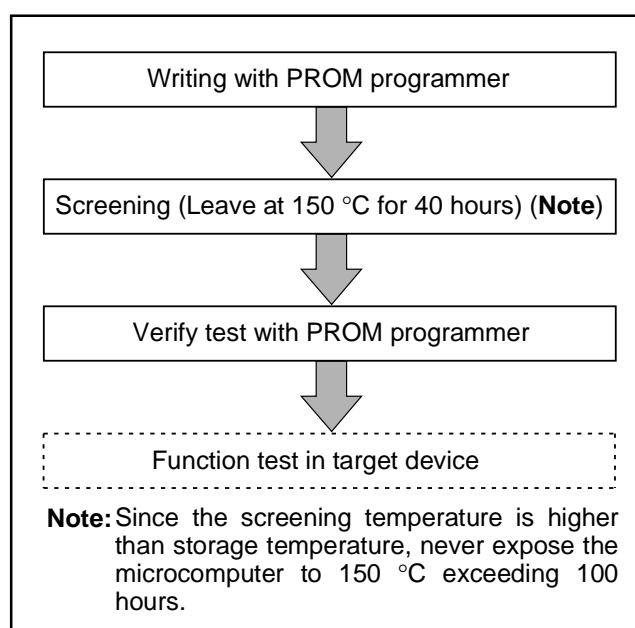

Fig. 77 Flow of writing and test of the product shipped in blank
(2) Notes on handling
- ① A high-voltage is used for writing. Take care that overvoltage is not applied. Take care especially at turning on the power.
- ② For the One Time PROM version shipped in blank, Renesas Technology corp. does not perform PROM writing test and screening in the assembly process and following processes. In order to improve reliability after writing, performing writing and test according to the flow shown in Figure 77 before using is recommended (Products shipped in blank: PROM contents is not written in factory when shipped).